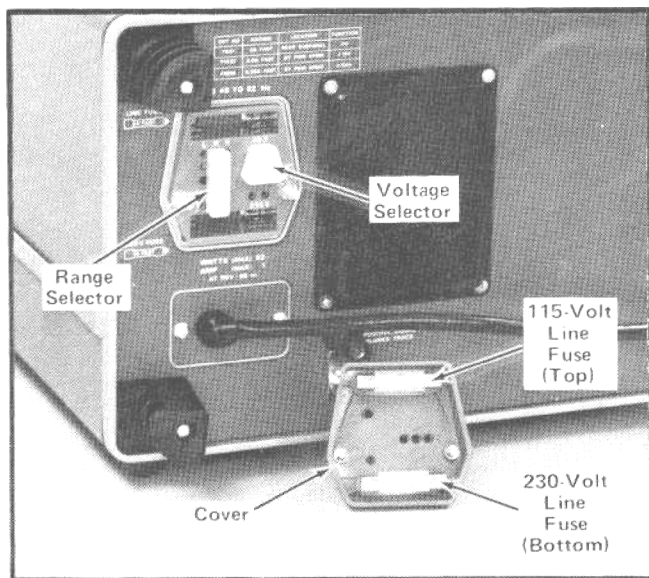

Fig. 2-2. Line Voltage Selector assembly on the rear panel (shown with cover removed).
3. To convert from 115-volts nominal to 230-volts nominal line voltage, pull out the Voltage Selector switch bar (see Fig. 2-2); turn it around 180° and plug it back into the remaining holes. Change the line-cord power plug to match the power-source receptacle or use a 115- to 230-volt adapter.
4. To change regulating ranges, pull out the Range Selector switch bar (see Fig. 2-2); slide it to the desired position and plug it back in. Select a range which is centered about the average line voltage to which the instrument is to be connected (see Table 2-1).